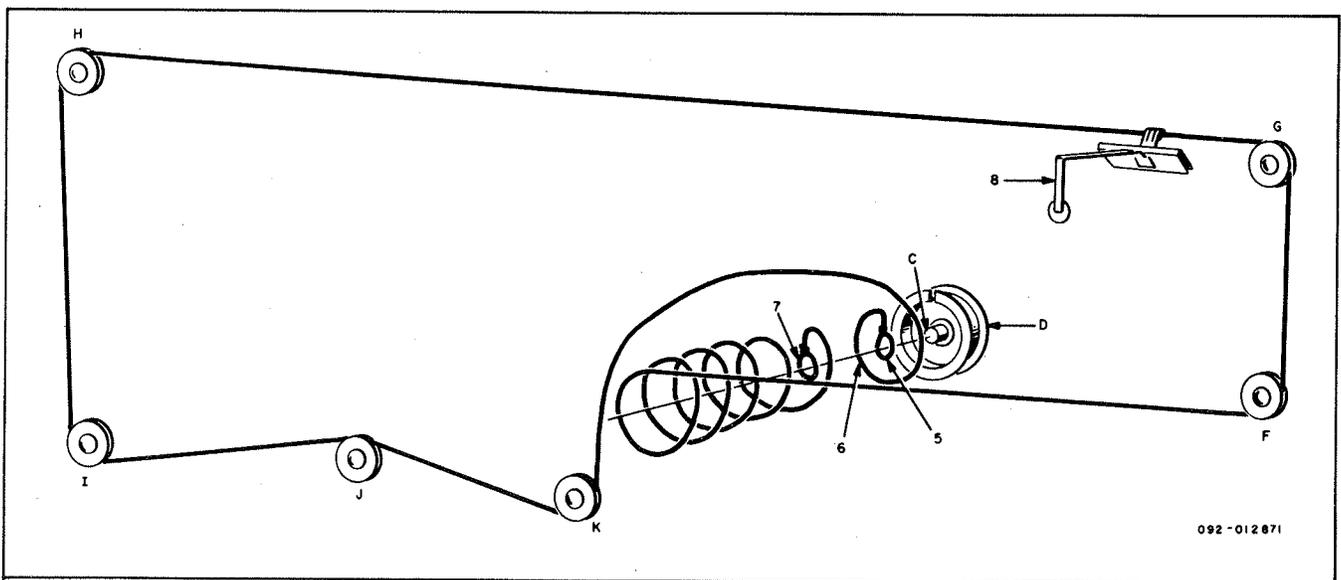
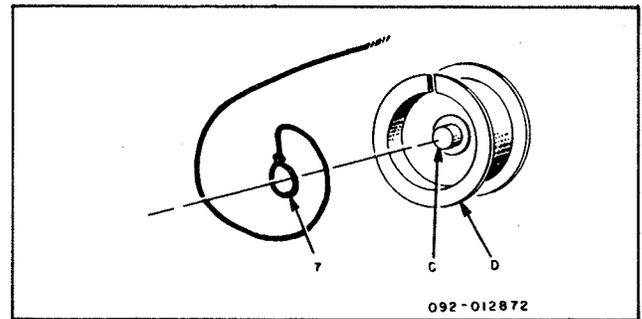

Figure 9. Stringing the Top Pointer.
Figure 10. Top Pointer Stringing Detail.
7. Restring the top pointer dial cord as follows (see figure 9):
- a. Turn the right tuning shaft fully clockwise. Attach the end of the cord (5) to shaft C and place one turn of the cord counterclockwise around pulley D, winding the cord toward the rear of the pulley.
- d. Attach the remaining loop (7) (see figure 10) to shaft C and slip one turn of the cord clockwise over pulley D. The loops are to be positioned at the bottom of the cord groove so that the cord will take up toward the end of the pulley.
- e. Replace the tuning knob on the right-hand VFO and turn it fully counterclockwise. Turn the knob clockwise fifteen divisions of the skirt. Locate pointer (8) at the first calibration mark, crimp tabs, and cement in place. Remove the tuning knob.